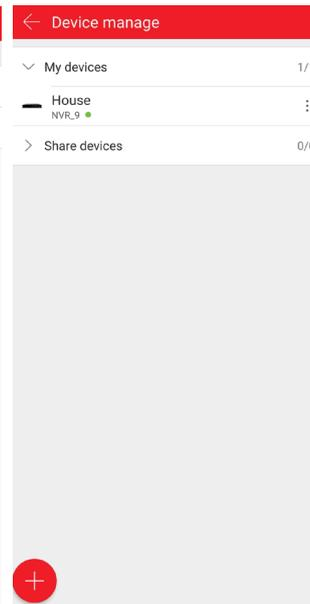

Fig.29
- After clicking on "Close", the recorder should appear on the list under the selected name (Fig. 29). A green lamp next to its name means that the recorder is available online. When the lamp is red, the recorder failed to connect with the Internet (power supply or network cable disconnected, incorrect network configuration, problem with Internet connection).